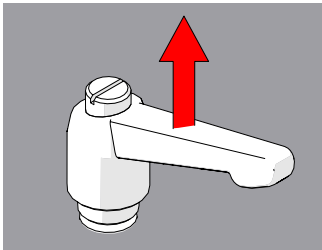

Fig. 61 - Pull ratchet handle
1. Pull the ratchet lever away from the base to which it is connected (*Fig. 61*).